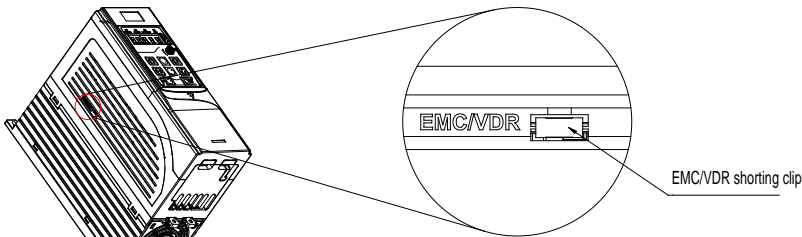
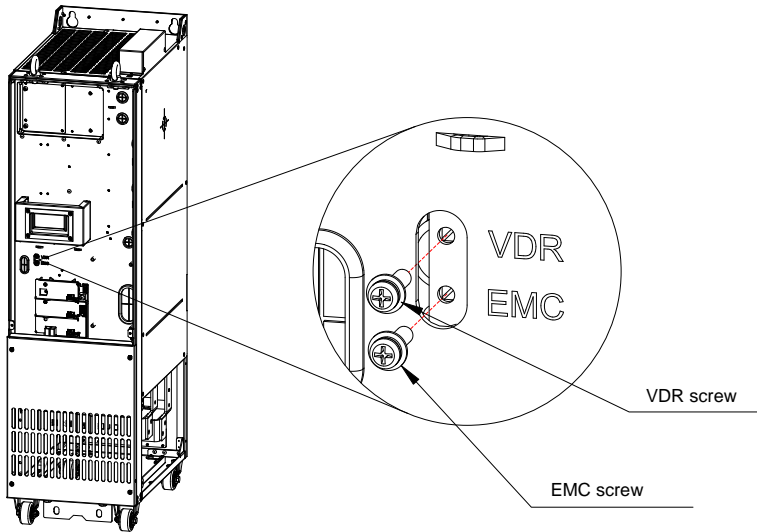

Figure 7-1 Shorting clip for 1.5–7.5kW
Figure 7-8 Screw positions for 220–630kW
- (1) Try to remove the EMC/VDR screw or J10 jumper at "EMC/VDR" of the VFD. The location of the screw or jumper is as shown in Figure 7-1 – Figure 7-8.